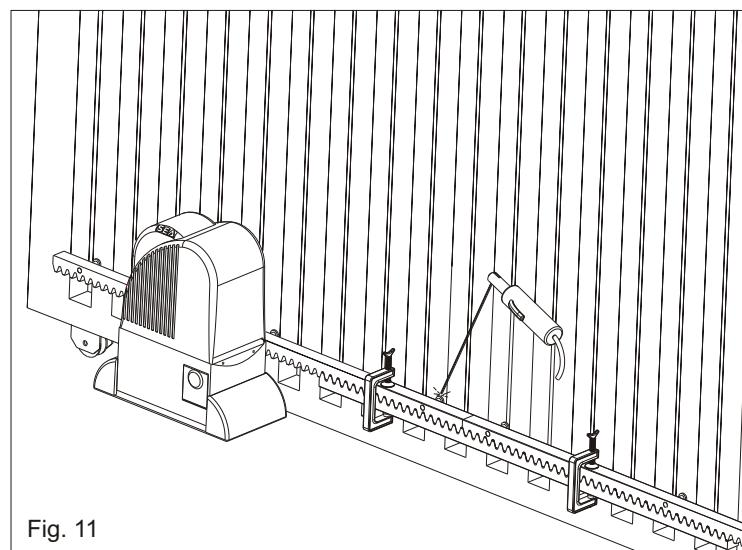

Fig. 11
**6.5.** Check all the rack pieces are perfectly alined and placed correctly (serrations in phases). When fitting the next section of rack use a third piece as shown in Fig. 11 to ensure a good mesh.